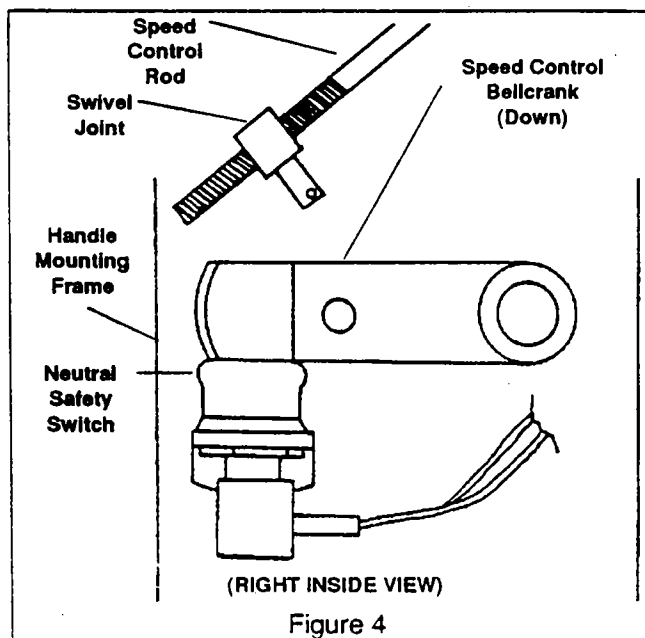

Figure 4
b) Insert end of swivel joint through hole in speed control bellcrank and secure with hair pin cotter. Rotate bellcrank forward and down (See figure 4).